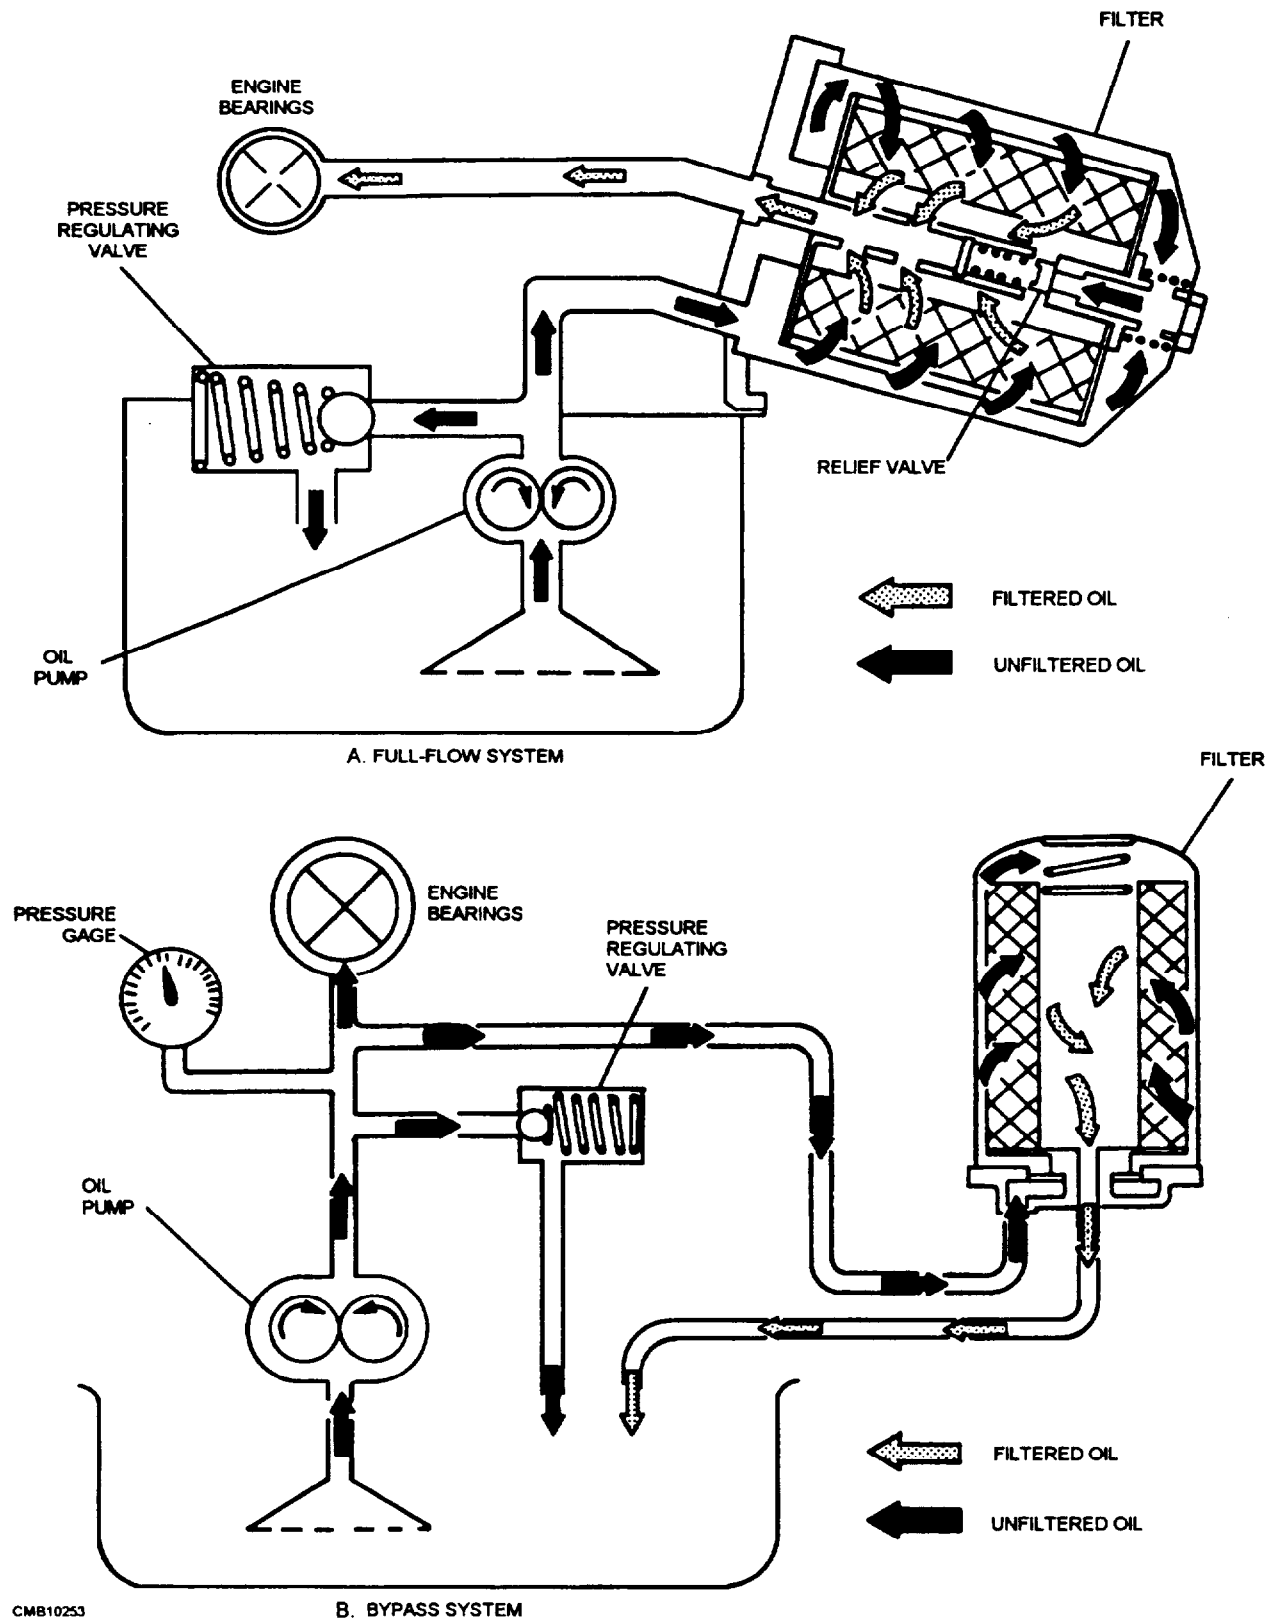

Figure 6-25.—Filter system configurations.
1. The full-flow system (fig. 6-25) is the most common. All oil in a full-flow system is circulated through the filter before it reaches the engine. When a full-flow system is used, it is necessary to incorporate a bypass valve in the
2. The bypass system (fig. 6-25) diverts only a small quantity of oil each time it is circulated and returns it directly to the oil pan after it is filtered. This type of system does not filter the oil before it is sent to the engine. The oil from the main oil gallery enters the filter and flows through the filter element. It then passes into the collector in the center of the filter. The filtered oil then flows out a restricted outlet preventing the loss of pressure. The oil then returns directly to the oil pan.